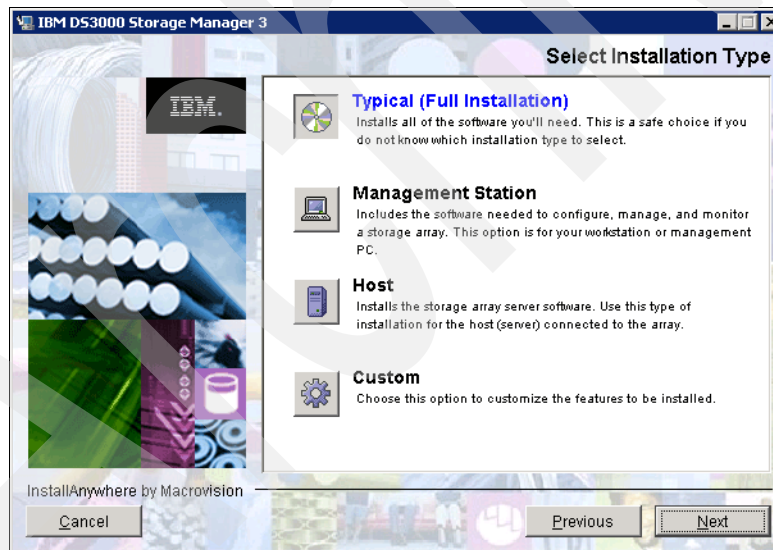

Figure 25-8 Multipath driver installation
1. Start Storage Manager on your host server. A detailed description for installing the Storage Manager is given in 6.1, "Installing DS3000 Storage Manager on Microsoft Windows 2003 and 2008" on page 82. Follow the steps, select either the **Host** installation type or **Custom** installation (Figure 25-8) and click **Next**.